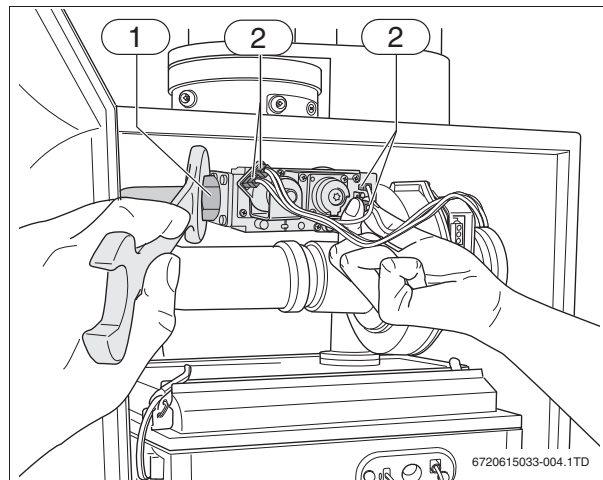

Fig. 3 Undoing the connections to the gas valve
- ▶ Loosen the screw connection on the gas valve (→ fig. 3, [1]) and pull the plugs (→ fig. 3, [2]) from the gas valve.